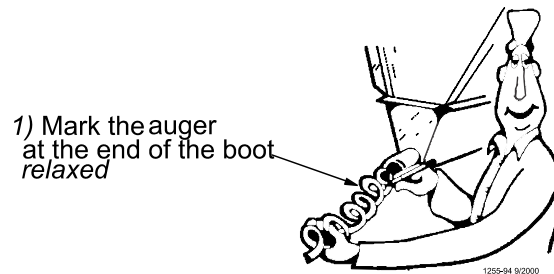

Figure 35.Measure the Auger from the relaxed position
10. Pull the auger at the boot end until it begins stretching. Then let it relax. In the *relaxed* position, mark the auger at the end of the boot. See **Figure 35**.